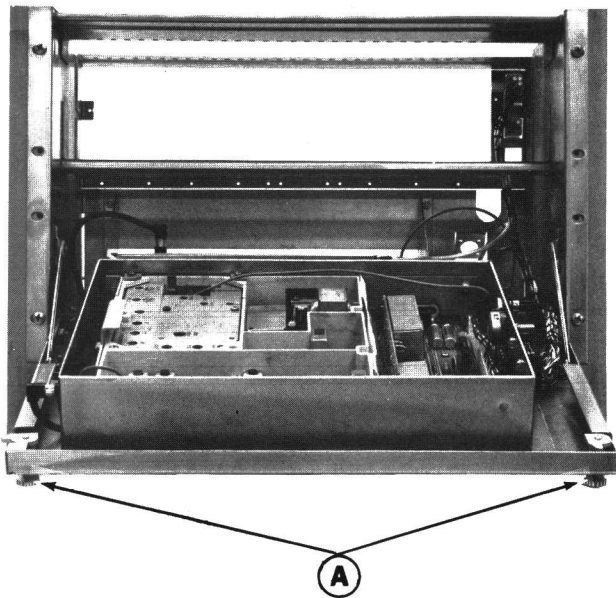

Figure 5 - Access to Exciter, Front View
| Figure 5 - Access to Exciter (Front View) .....                      | 6     |
1. Turn the two latching knobs (A) counter-clockwise to unlatch the Radio Panel Front Door. Refer to Figure 5.